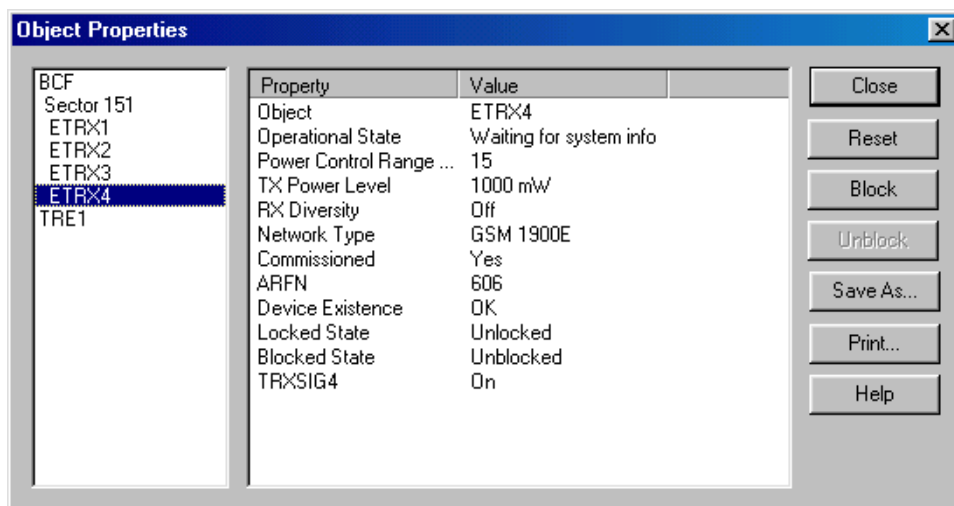

Figure 10. Example of blocking a TRX in Nokia BTS Manager
2. Block the TRX using Nokia BTS Manager (if the sector is not already locked from the BSC). In the *Supervision - Equipment View* window, right click on the TRX image and select the BLOCK button in the *Object Properties* dialogue window (see Figure 10).